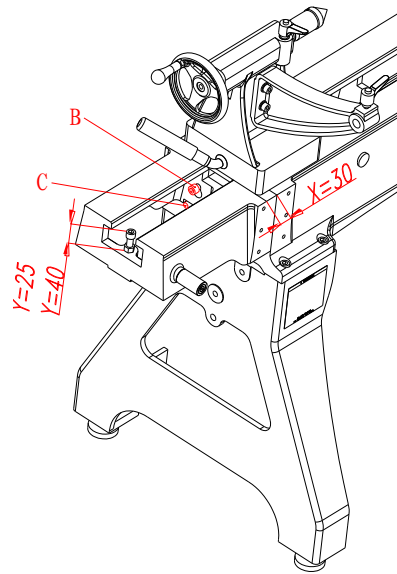

Fig.10
- 3, Slide the tailstock back to the position as show in figure. $X=30\text{mm}$ or $1 - 1/2"$ (Fig. 10).
- 4, 12" extension bed used as extension bed, adjust the height of screw to 40mm ($Y=40\text{mm}$) ; 12" extension bed rotates to the side, adjust the height of screw to 25mm ($Y=25\text{mm}$) (Fig. 10)